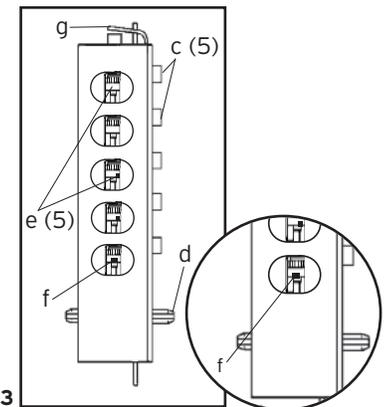

Fig. 3
3. Look at the 5 code gears (**e**) found inside the oblong windows. If any code gear pockets (**f**) are already at the shear line (open position), ignore them. They are not used in the combination (**See Figure 3**).
4. Find the code gear pocket/s (**f**) that is farthest away from the shear line (open position). Depress that key-stem/s (**c**) and release (**See Figure 3**). If any code gear pockets are equal distance from the shear line, then they must be depressed together to reset the combination.
5. Find the code gear pocket/s (**f**) that is the next farthest away from the shear line (open position). Depress that key-stem/s (**c**) and release (**See Figure 3**).
8. Depress the lockout slide (**g**) at the top of the chamber and release (looks like one end of a spark plug) (**See Figure 3**).